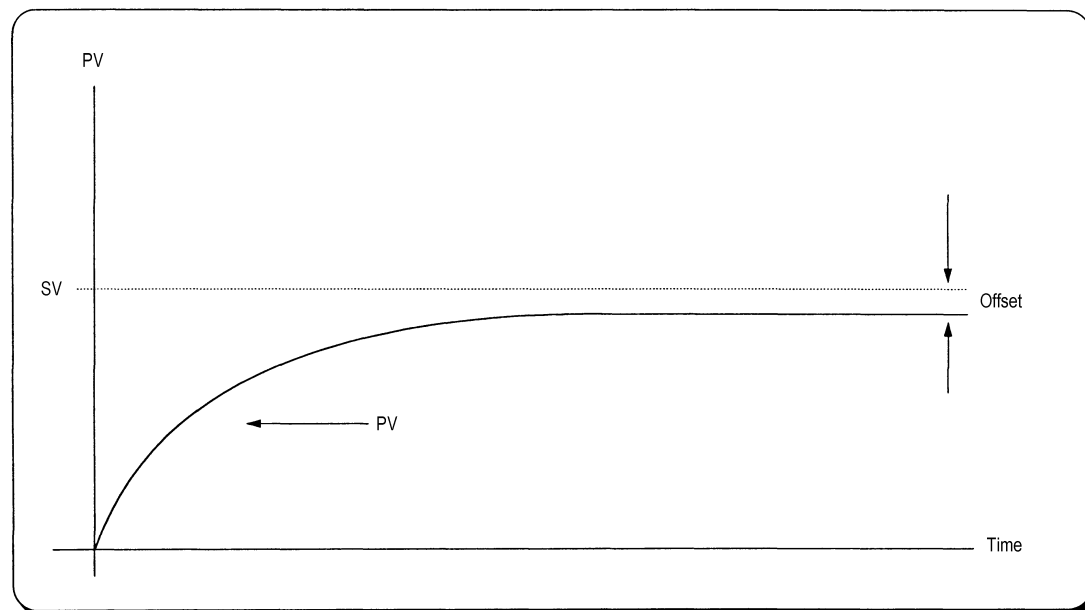

Fig. 2.3 When the proportional constant ( $K_p$ ) is small
- (e) If the Kp is too small, oscillation will not occur. However, the PV reaches to the SV slowly and an offset may appear between PV and SV shown in the Fig. 2.3.
- (f) The manipulation value (MV) varies from 0 to 4,000. User can define the maximum value of MV (MV\_MAX) and minimum value (MV\_MIN) within the range 0 ~ 4,000.